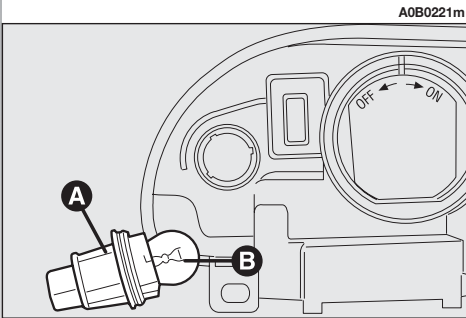

fig. 31
- Remove the bulb (**B-fig. 31**) from the bulb holder (**A-fig. 31**), pushing lightly and turning counter-clockwise.
- Replace the bulb (**B-fig. 31**).
– Refit the bulb holder (**A**-fig. 31) by making its notches coincide with the grooves in the headlight unit body and turn it clockwise.